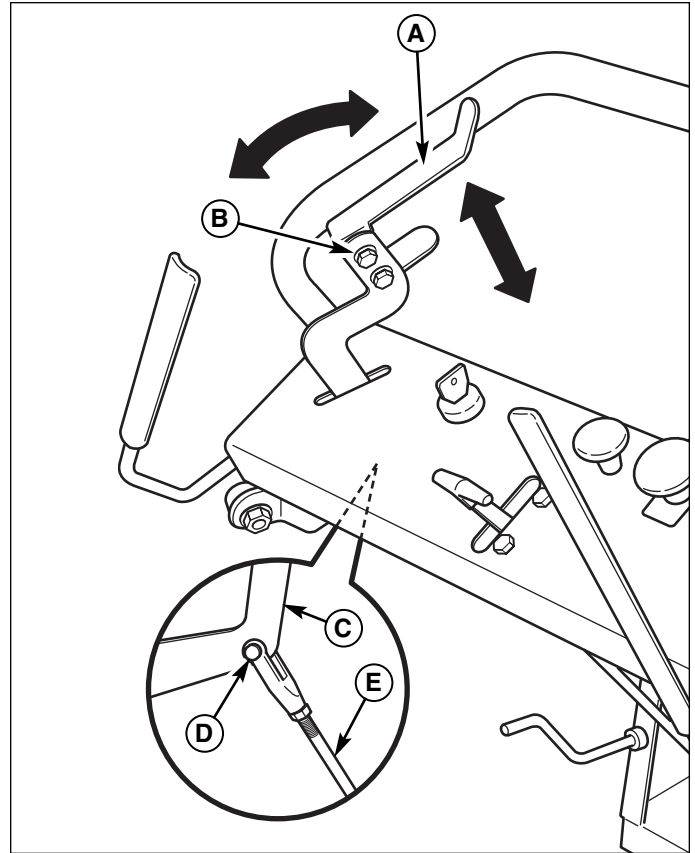

Figure 17. Ground Speed Control Lever Adjustment
1. Loosen the lever fastener (B, Figure 17) to adjust the lever height. Make sure the levers are parallel with the handle bars in both forward and reverse without contacting the handle bars.